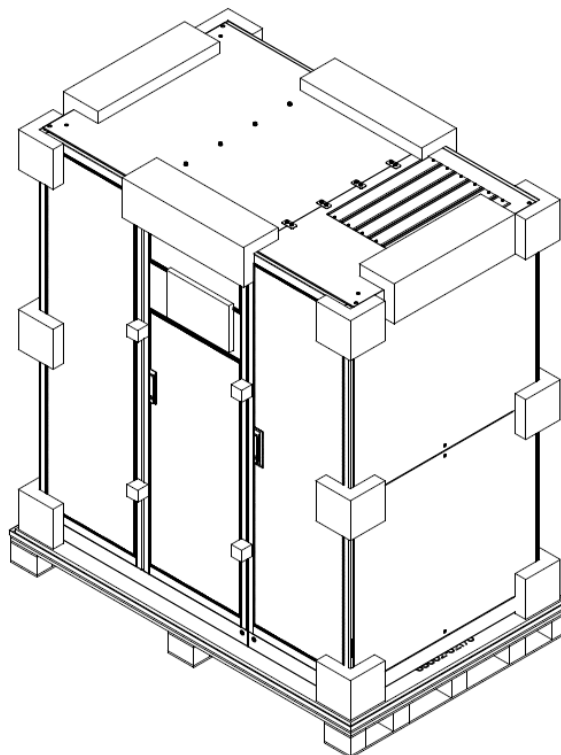

Figure 3-15 Disassemble the box
Step 3: Pry open the buckle and open the wooden box, as shown in Figure 3-15;